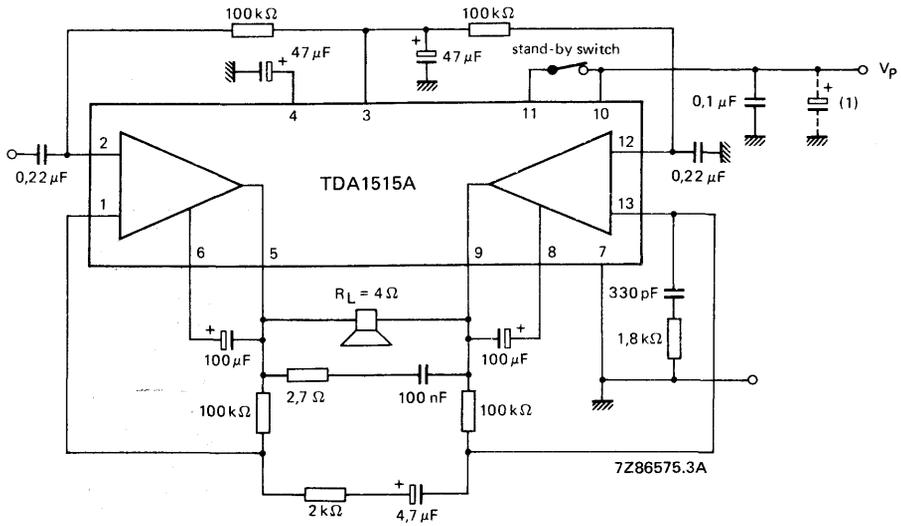

Fig. 3 Test/application circuit bridge tied load (BTL).
4. The input impedance in the test circuit (Fig. 3) is typ.  $100 \text{ k}\Omega$ .